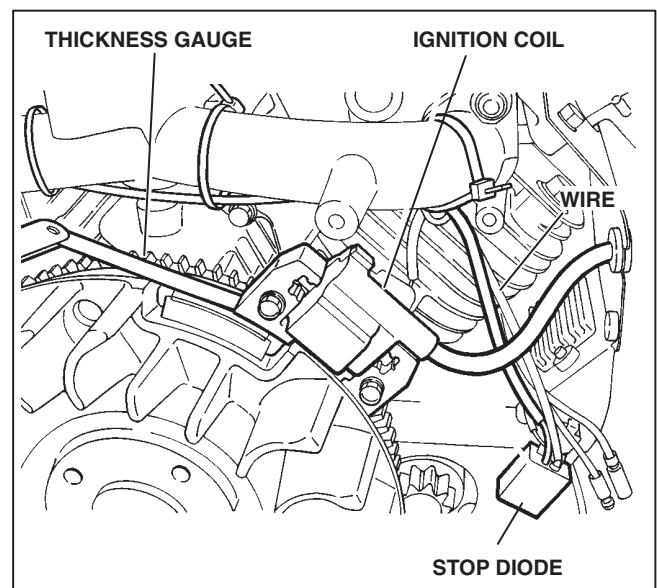

FIGURE 6-15.
4. Connect wiring from the stop diodes to the primary terminals on the ignition coils (Figure 6-15).